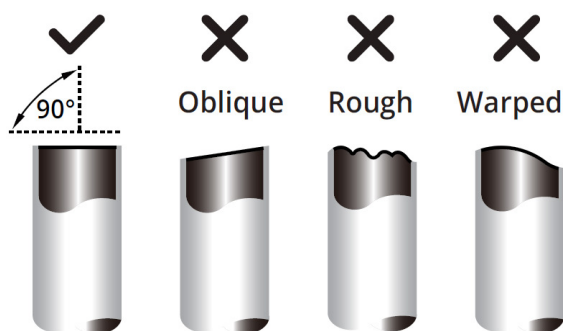

Fig. 6.1
3. Make sure that the pipe is cut at a perfect 90° angle. Refer to Fig. 6.1 for bad cut examples.